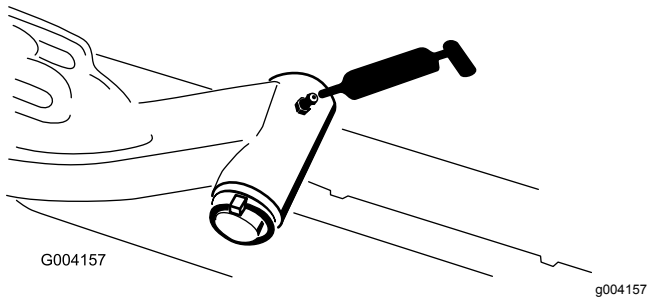

Figure 46
- Lift arm pivot shaft (1 each) (Figure 46)